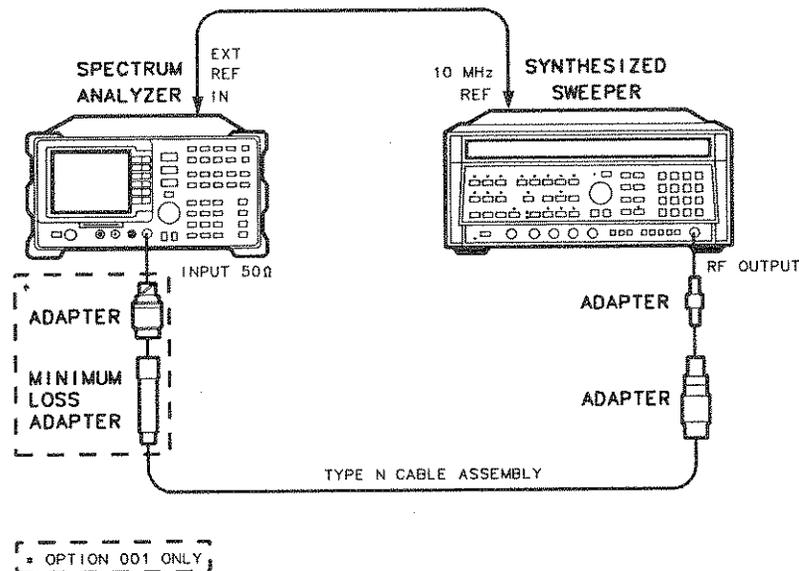

Figure 3-2. Frequency Readout Accuracy Test Setup
1. Connect the equipment as shown in Figure 3-2. Connect the 10 MHz REF OUT of the HP 8340A/B to the EXT REF IN of the analyzer.